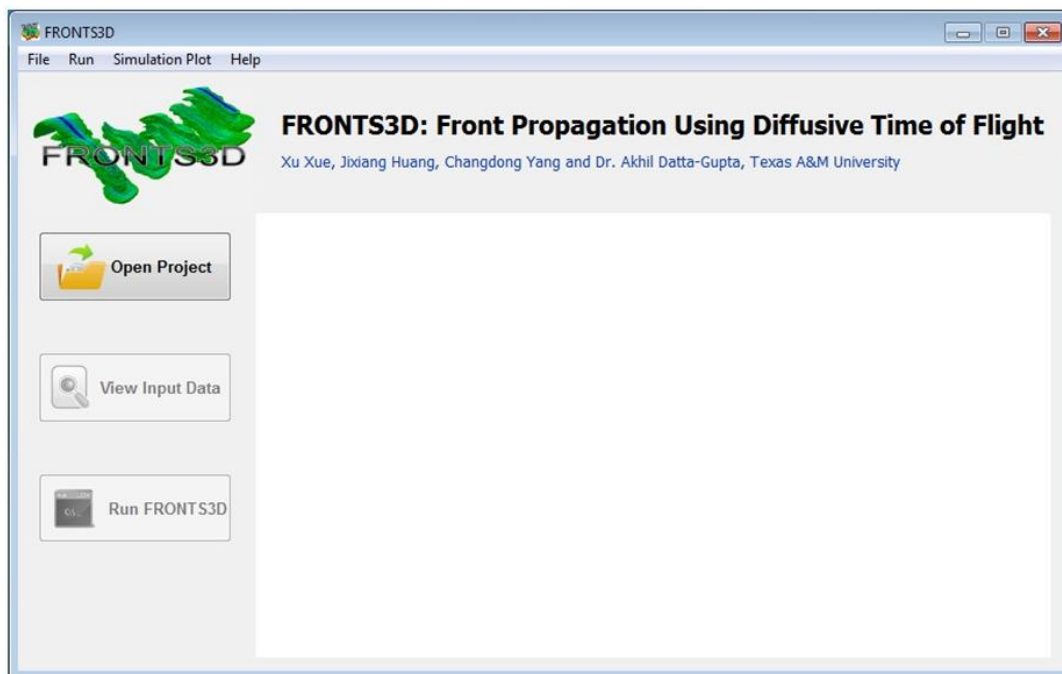

Figure 1. Starting Screen
2. Once the program starts, the main screen appears as below (**Figure 1**).